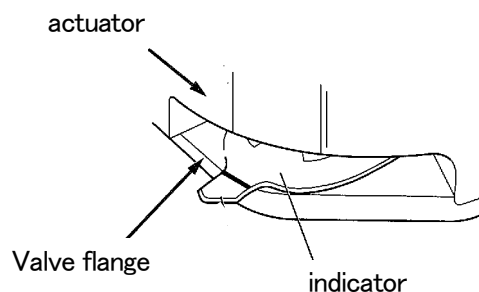
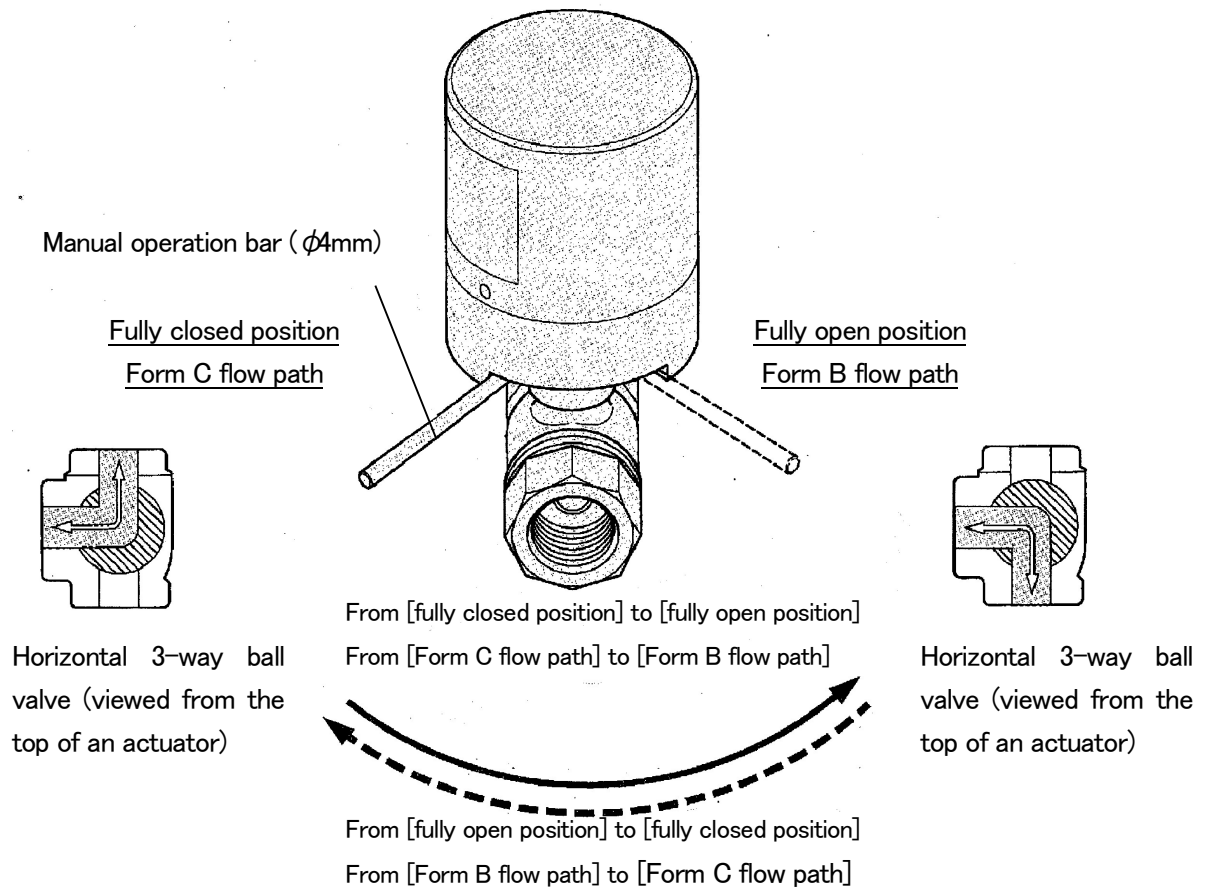

Fig.29 Position indicator for 2-way ball valves
Fig.30 Position indicator for 3-way ball valves
- ① An actuated valve is fully open, when a position indicator marked in red becomes visible below the bottom of the housing. No visibility of the red mark means that the valve is set fully closed (Fig.29). In the case of a horizontal 3-way ball valve, the red mark becomes visible either on the side of Form B or C, depending on the path of the fluid flow (Fig.30).
- ② Prepare a metal bar ($\phi 4\text{mm} \times 15\text{cm}$) for manual operation. It is optionally available at KITZ distributors and agents.
- ③ Insert the manual operation bar into a hole provided on the bottom of an actuator housing, and rotate it by 90° , following the arrow marks shown in **Fig.30**, very slowly, taking some 20 seconds.